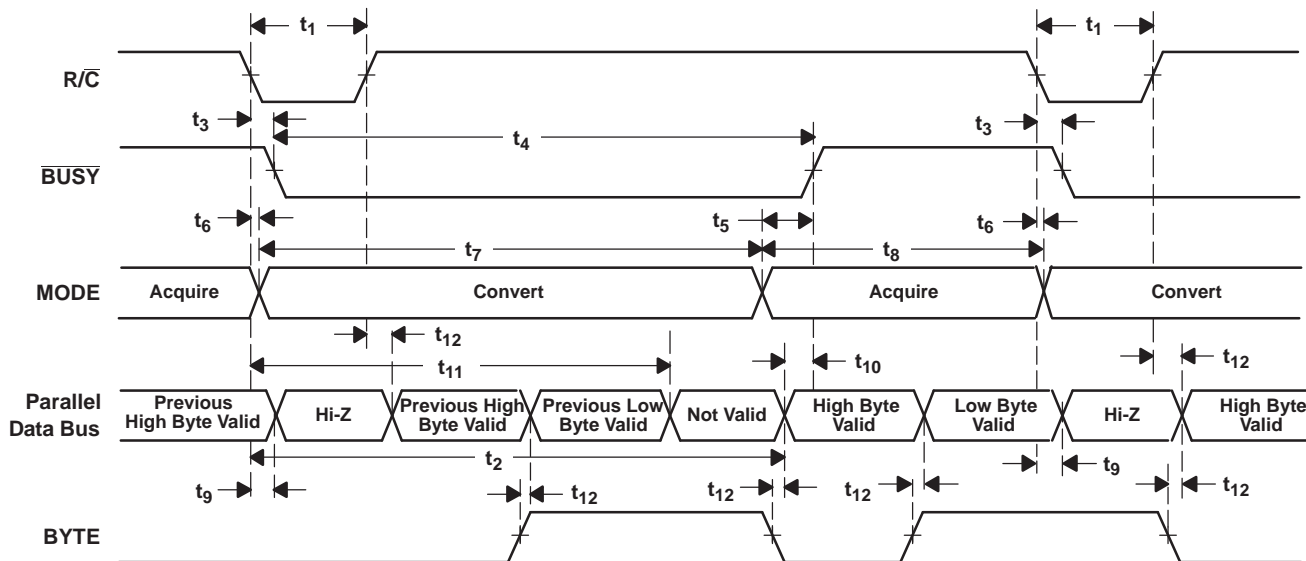
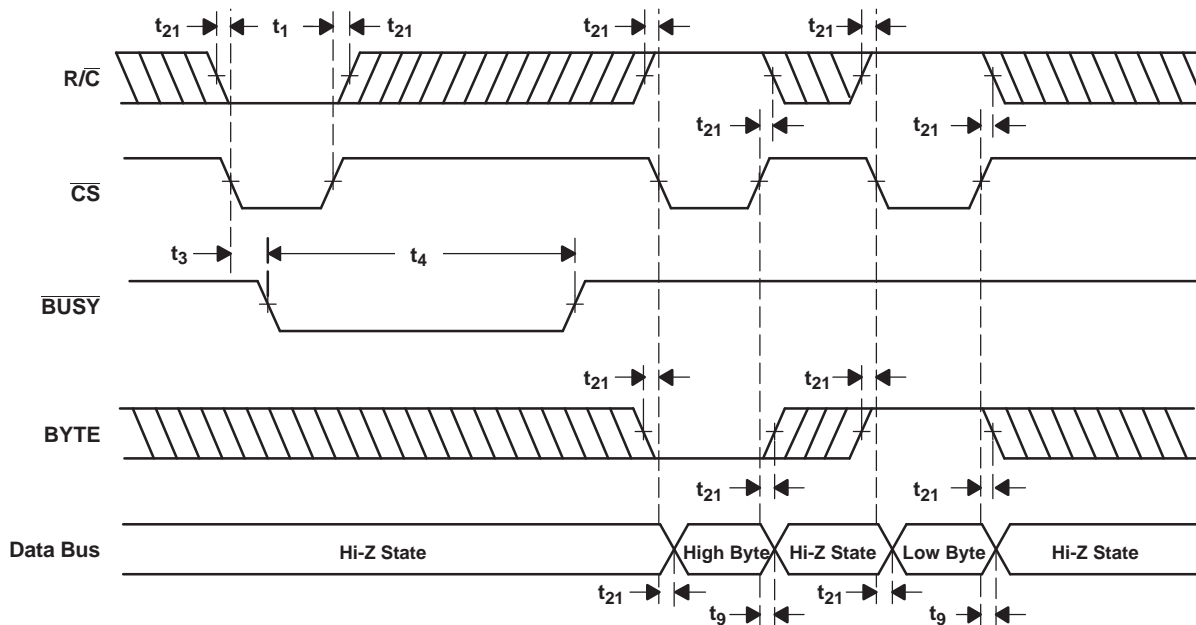

Figure 30. Conversion Timing With Parallel Output ($\overline{\text{CS}}$ and $\overline{\text{DATACLK}}$ Tied Low, EXT/INT Tied High)
Figure 31. $\overline{\text{CS}}$ to Control Conversion and Read Timing With Parallel Outputs
The ADS8517 begins tracking the input signal at the end of the conversion. Allowing 5 μ s between convert commands assures accurate acquisition of a new signal. Refer to Table 2 and Table 3 for a summary of \overline{CS} , $\overline{R/C}$, and \overline{BUSY} states, and Figure 30 through Figure 36 for timing diagrams.
(1) See Figure 30 and Figure 31 for constraints on data valid from conversion $N-1$.
After conversion *N* is completed and the output registers have been updated, $\overline{\text{BUSY}}$ (pin 24) goes high. Valid data from conversion *N* are available on D7-D0 (pin 9-13 and 15-17). $\overline{\text{BUSY}}$ going high can be used to latch the data. Refer to Table 5, Figure 30, and Figure 31 for timing specifications.
After conversion N has been initiated, valid data from conversion $N-1$ can be read and are valid up to $2.2\ \mu\text{s}$ after the start of conversion N . Do not attempt to read data beyond $2.2\ \mu\text{s}$ after the start of conversion N until $\overline{\text{BUSY}}$ (pin 24) goes high; doing so may result in reading invalid data. Refer to Table 5, Figure 30, and Figure 31 for timing constraints.